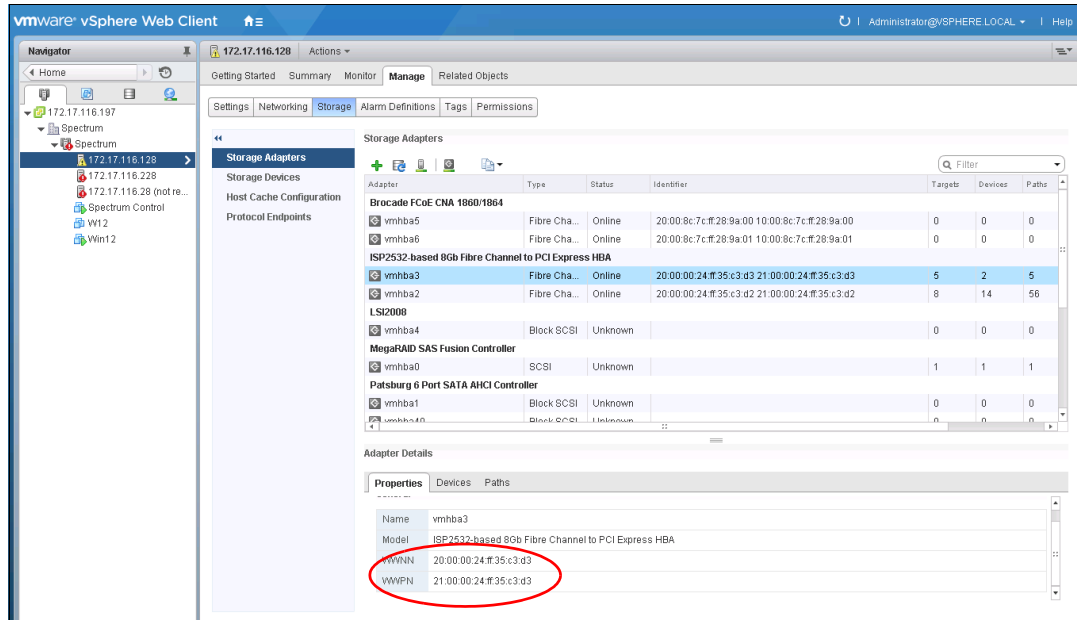

Figure 5-17 Show WWPNS in VMware ESXi
- Click **Storage Adapters**, and scroll down to your FC HBAs (see Figure 5-17). Document the WWPNs of the installed adapters for later use.